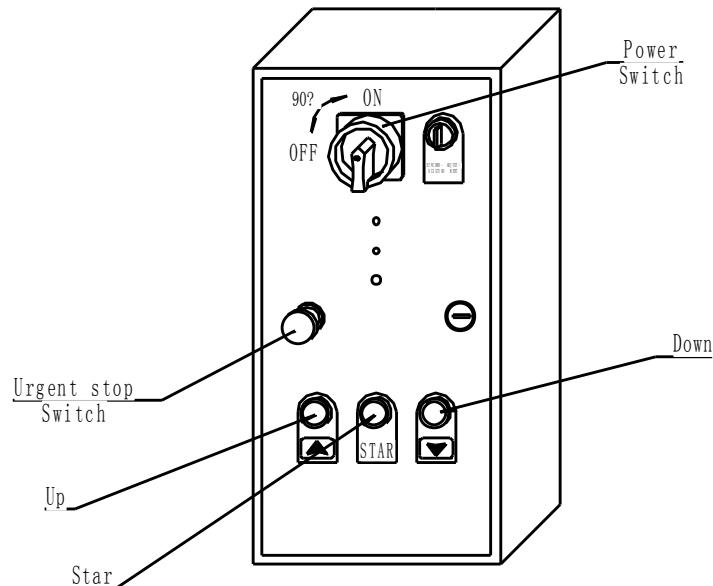

fig23
5) Turn “0→1” switch on main electric cabinet to “1” (see fig 23)
9) Turn “0→1” switch on main electric cabinet to “1”, disconnect power supply (see fig 23)